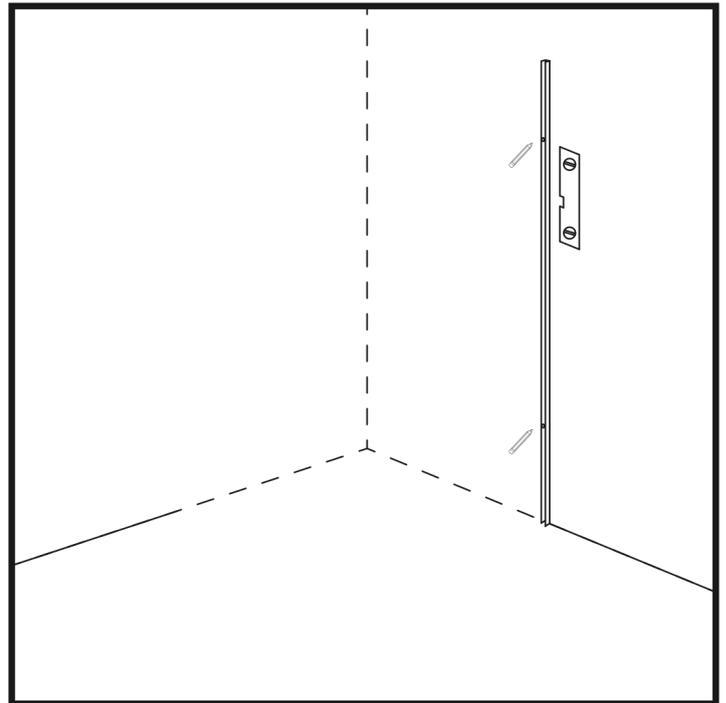

Figure 2
3. Using a spirit level, place the hinge bar profile vertically on the wall so that the edge is flush with the edge of the floor. (Figure 2)